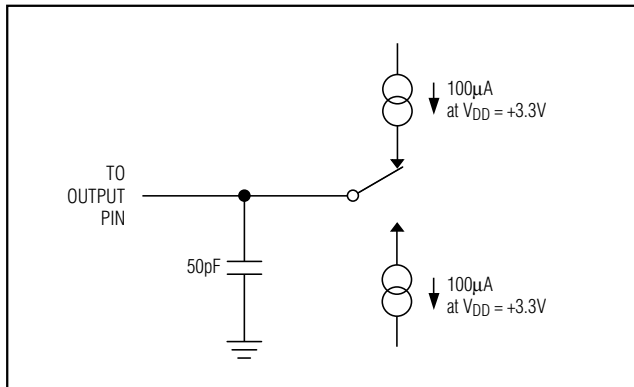

Figure 1. Load Circuit for Bus-Relinquish Time and  $V_{OL}$  and  $V_{OH}$  Levels
**Note 26:** Measured with the load circuit of Figure 1 and defined as the time required for the output to cross the  $V_{OL}$  or  $V_{OH}$  limits.
**Note 28:** Derived from the time taken by the data output to change 0.5V when loaded with the circuit of Figure 1. The number is then extrapolated back to remove effects of charging or discharging the 50pF capacitor. This ensures that the times quoted in the timing characteristics are true bus-relinquish times and are independent of external bus loading capacitances.